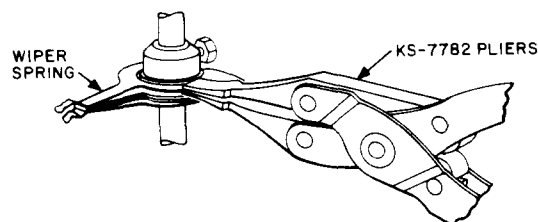

Fig. 12—Method of Adjusting Tension of Wiper Springs
(4) To adjust the wiper spring tension, first loosen the wiper spring assembly on the shaft with the 3-inch C screwdriver or the 555A wrench. Rotate the springs into the space opposite the bank so that they are accessible.
(5) To increase the tension of the wiper springs, apply the pliers to the circular part of the spring first on one side, as shown in Fig. 12, and then on the opposite side. Twist the pliers in a direction to force the wiper springs toward its opposing spring. Repeat this operation on the other spring of the pair, equalizing the adjustment so the follow on both springs of the pair will be the same when checked in accordance with requirement 2.09. Reset the wipers in their proper positions as described in 3.10 and 3.11.
(6) If the wiper tips do not overlap the bank contacts as specified, proceed as follows.